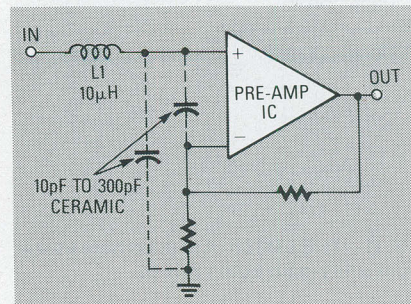

FIG. 25—THE CIRCUIT SHOWN HERE can be used to eliminate RF pickup.
0.1 μF ceramic or 0.001 μF tantalum capacitor across the IC power pins. The latter, RF pickup, manifests itself as AM demodulation. It can usually be eliminated with a 10-μH RF choke in series with an IC's input terminals, or by also decoupling the input with a capacitor, as in Fig. 25.